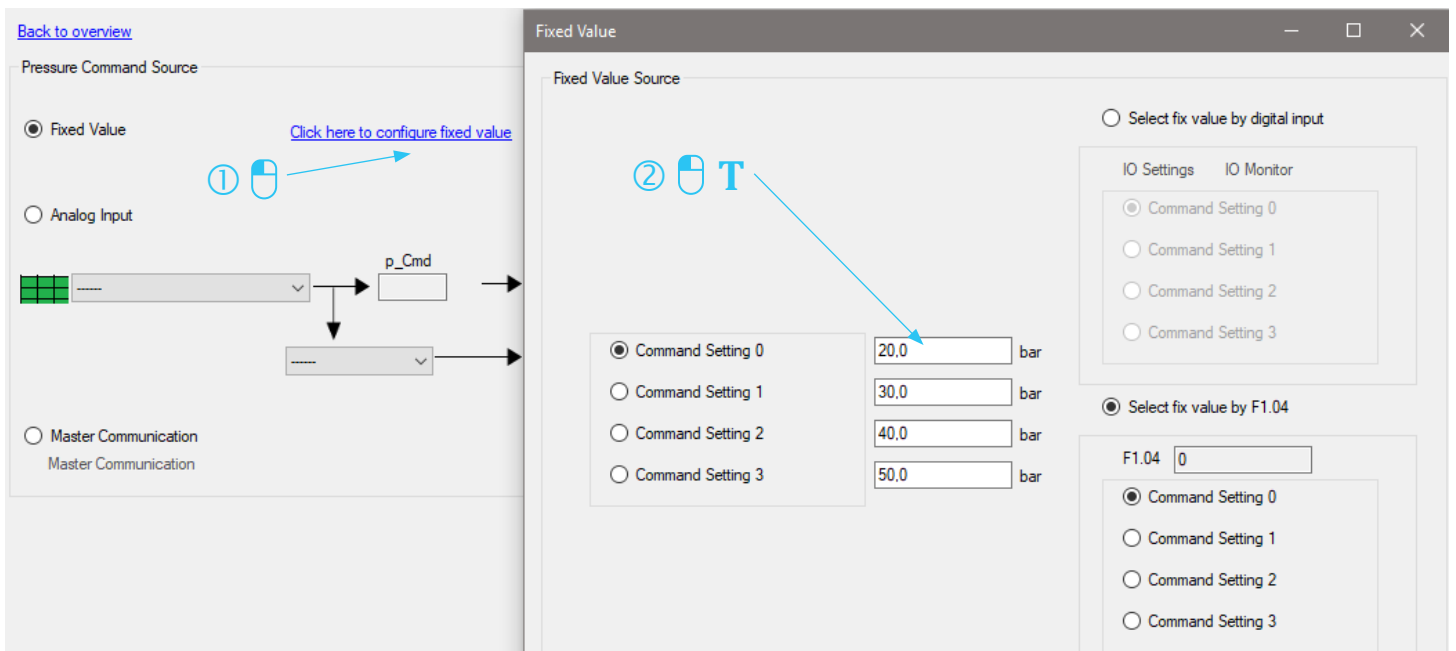

Fig. 24: Pressure command value fixed 2/2
3. Enter the desired pressure command in "Command Setting 0" (see Fig. 24: Pressure command value fixed 2/2).